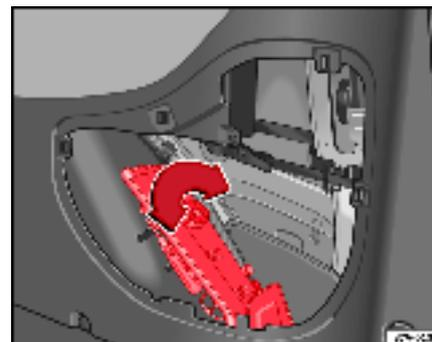

Fig. 150 Storage of vehicle tools
The vehicle tools are stored in the luggage compartment, behind the side cover on the right and are secured using a thumb screw ⇒ fig. 150 ①. The tool kit comprises the following items:
- ① Tool box44)
- ② Screwdriver with hexagon socket in the handle for slackened wheel bolts. The screwdriver blade is reversible. The screwdriver is in the wheel bolt.
- ③ Towing eye, removable
- ④ Open jaw spanner 10 x 13 mm
- ⑤ Wire hook44) for pulling off the centre cover and the wheel bolt caps ▶